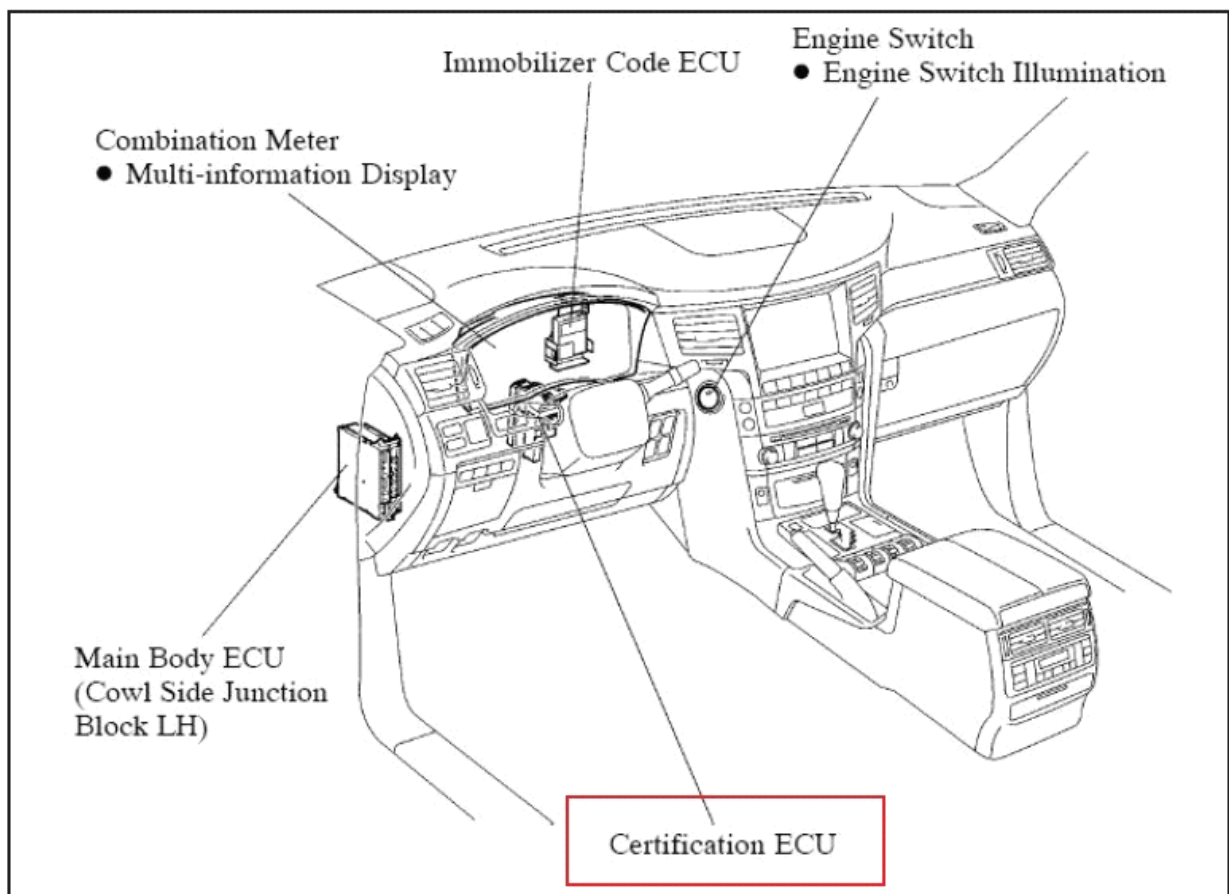
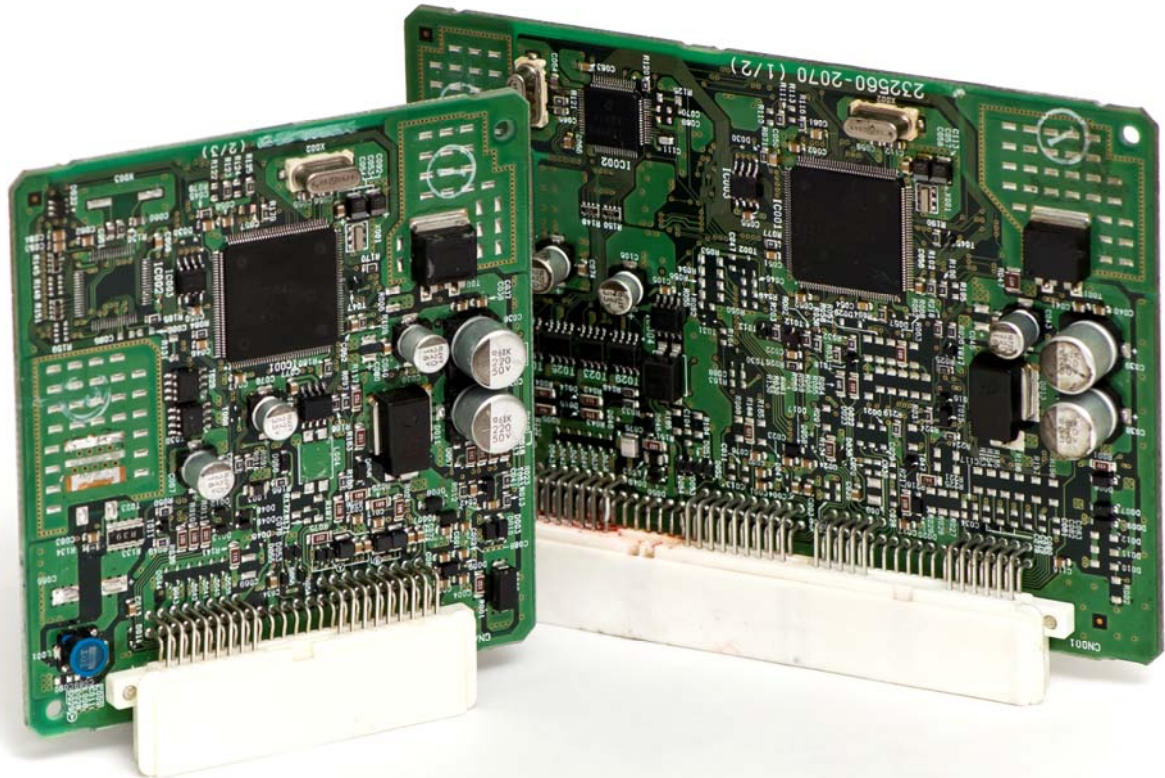

Fig. 4 Certification unit location
Fig. 5 Certification unit board typical view
1. Remove the Certification unit (fig. 4), disconnect connectors and take out internal board from its casing (fig. 5).